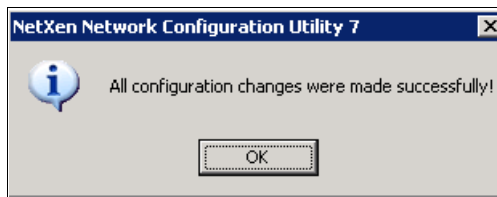

Figure 5-18 NetXen Network Configuration Utility 7 window
6. When the teaming configuration has finished, the following message (Figure 5-18) will display.